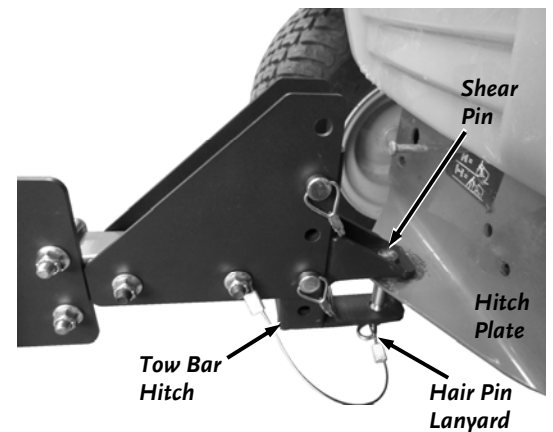

Figure 29
2. Lift the Tow Bar and position the Tow Bar Hitch opening onto the Lawn Tractor Hitch Plate (**Figure 29**).